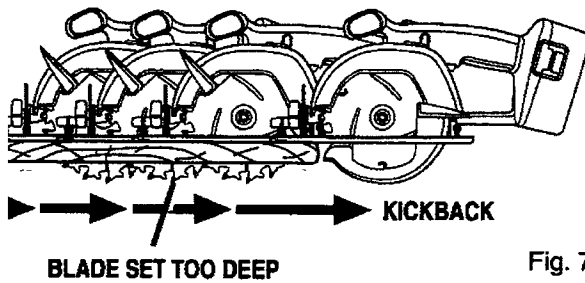

Fig. 7
See Figure 7.
- Incorrect blade depth setting. See Figure 7.